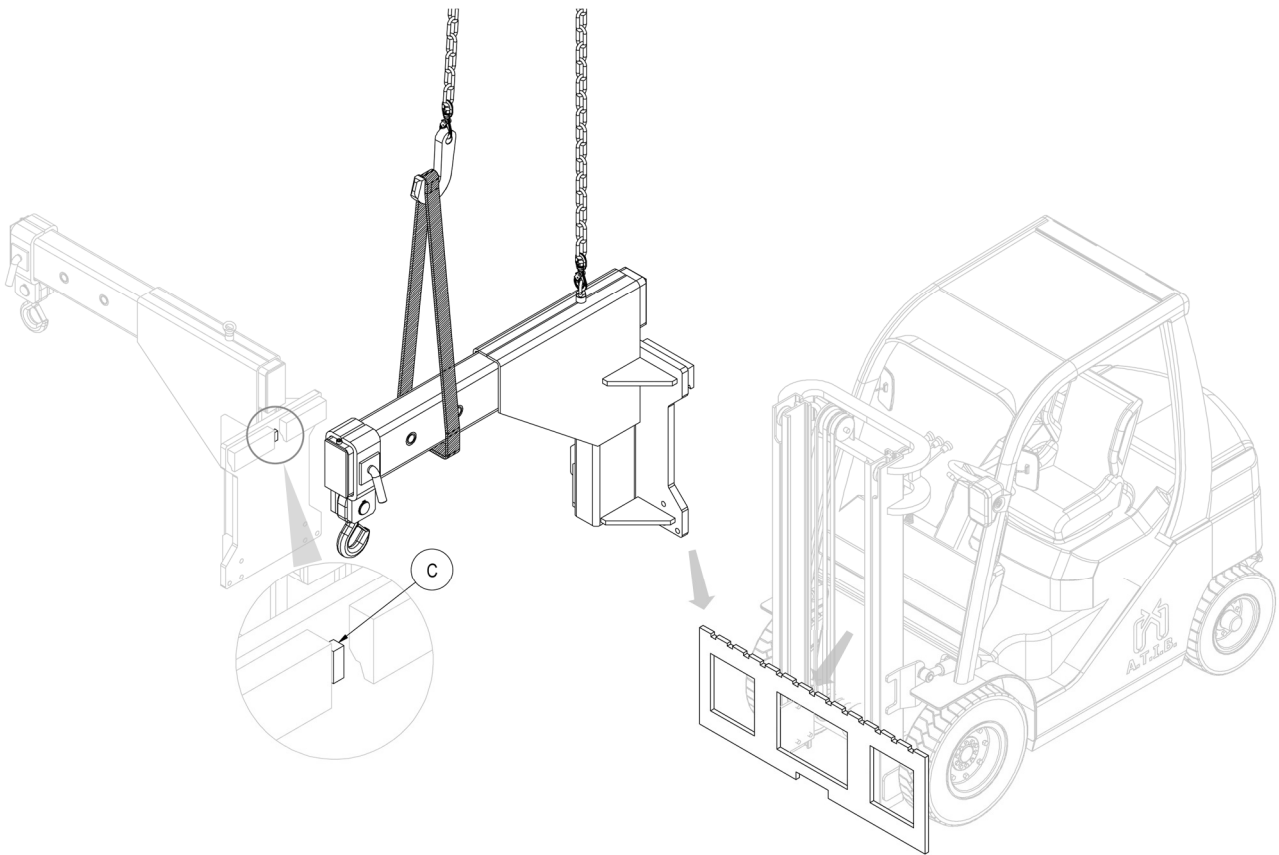

Figure 4
5. With an overhead crane or a hoist of sufficient capacity, place the equipment on the fork carriage plate, taking care to engage the centring pin **C** in its central notch (see *Figure 4*).
3. Then lift the equipment with an overhead crane or hoist of sufficient capacity and remove it from the forklift (see *Figure 4* on page 11).